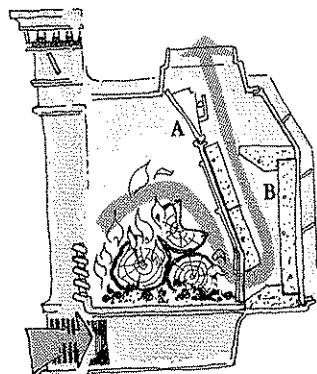

FIG. 8 THREE-LOG FIRE CONFIGURATION
When the damper is engaged (rod is pulled out), exhaust gases are diverted into the rear refractory-lined chamber where high temperatures encourage further combustion (see Fig. 8). This "horizontal" burning mode produces the greatest amount of heat from the FirePlace Insert over long periods of time. The actual length of burn will vary depending upon type of wood burned, moisture content of wood, size of logs, and thermostat setting.
- Once the logs in your start-up fire have begun to burn down to charcoal, open the damper and add larger pieces of wood. The most aesthetically pleasing and most fireplace-like appearance is achieved by using a traditional three-log configuration (Fig. 8). The bottom rear log should be placed about an inch or two from the fireback arch opening and the bottom front log should rest inside the front grate bars. The logs should be in the 16" to 18" length range for best operation and should be centered if possible. This configuration also encourages the strong air flow that helps keep the glass clear.